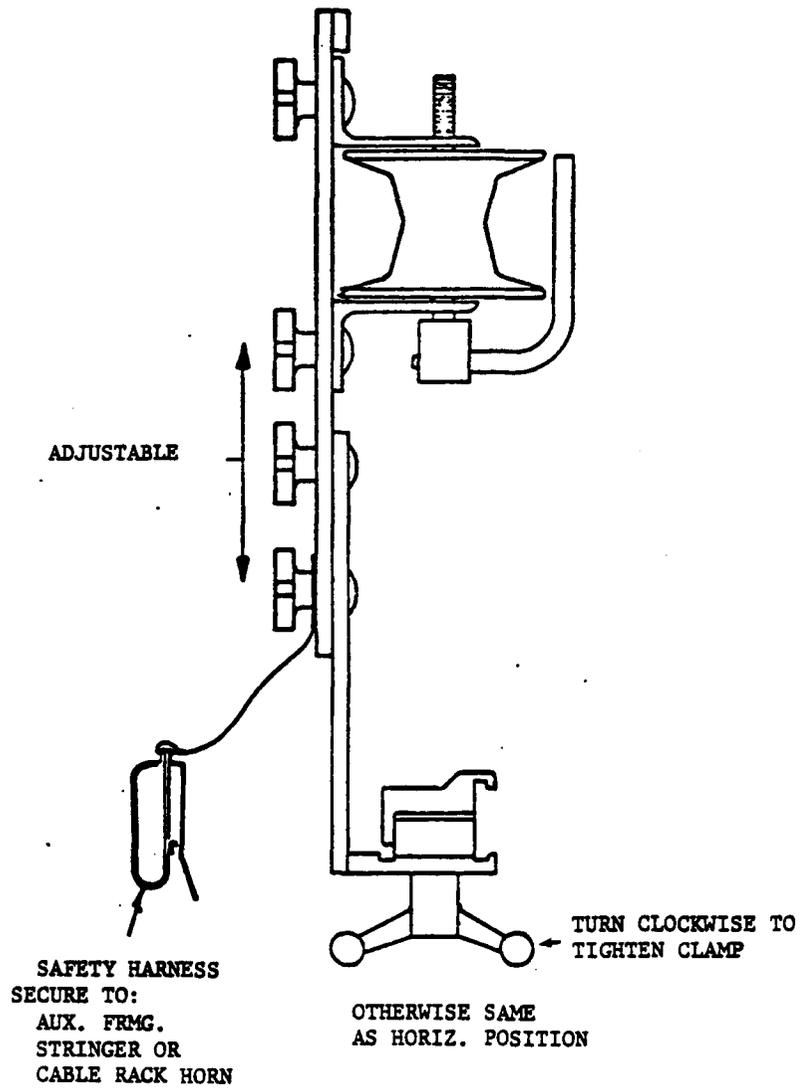

FIG. 22 VERTICAL ASSEMBLY R-4321
3.634 The guides must be adjusted in height (FIG. 22) to keep the sheave above existing cable and framework to reduce friction and prevent damage to cables. It is recommended that this vertical height adjustment be made before placing on cable rack.
3.636 Each cable guide is equipped with a safety harness (FIG. 22) which must be attached when the cable guides are mounted. The clip shall be slipped over the cable rack stringer, horn, or the auxiliary framing bar.